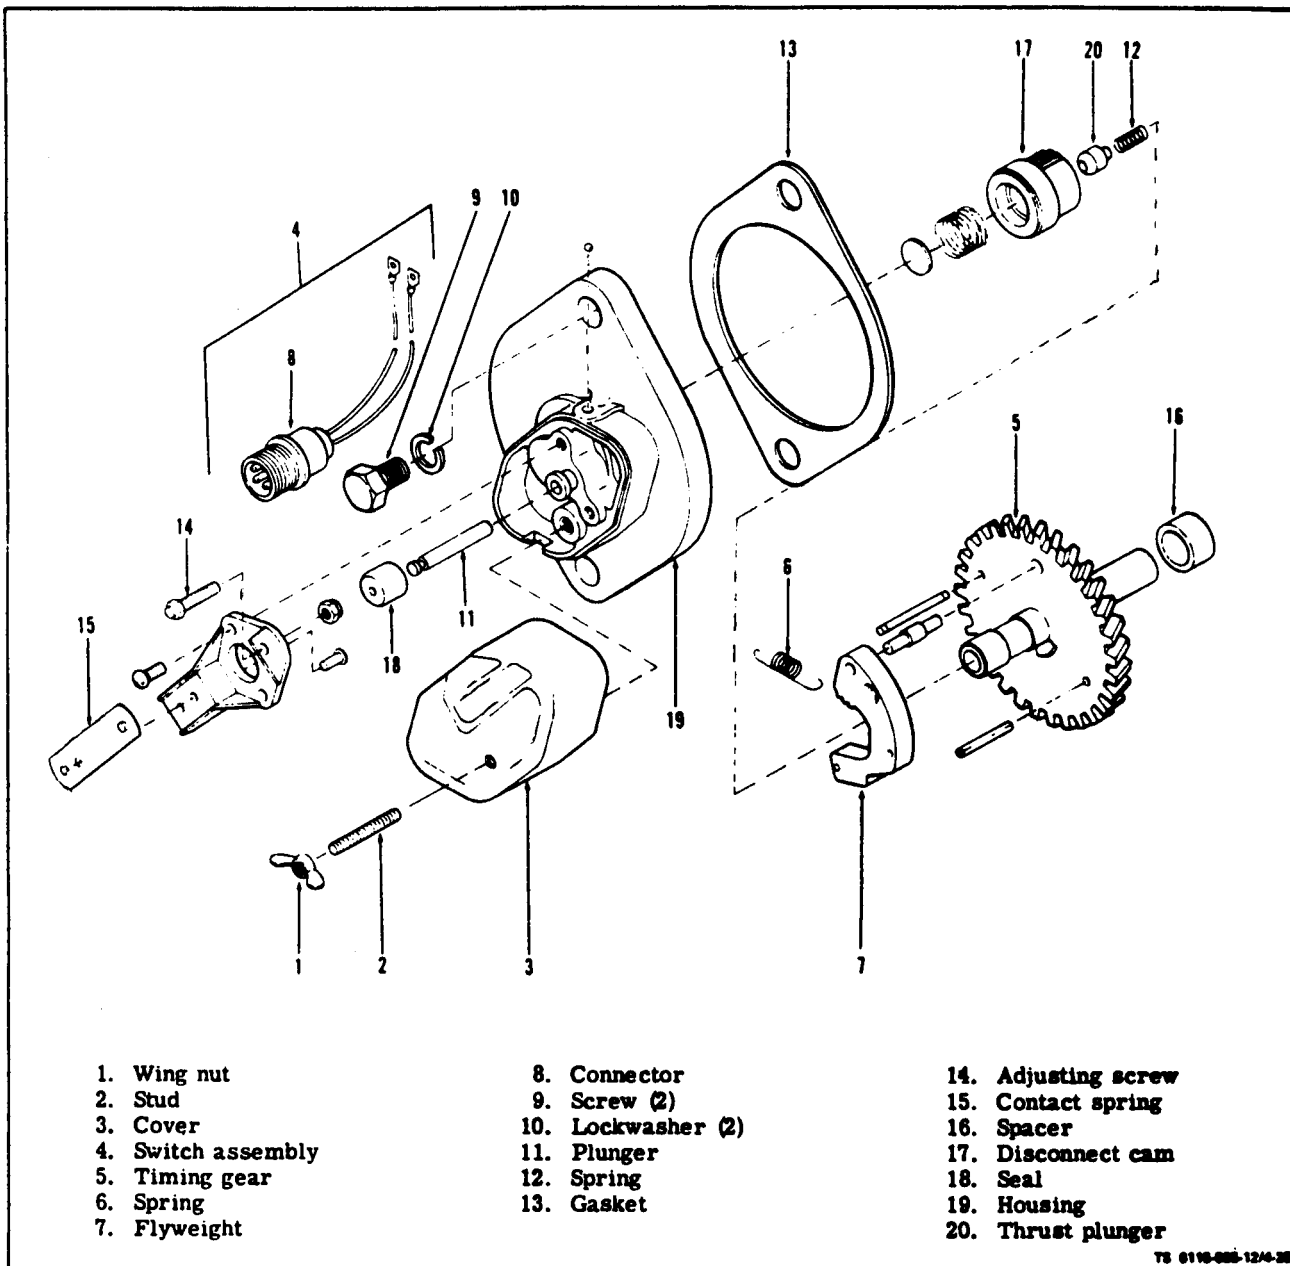
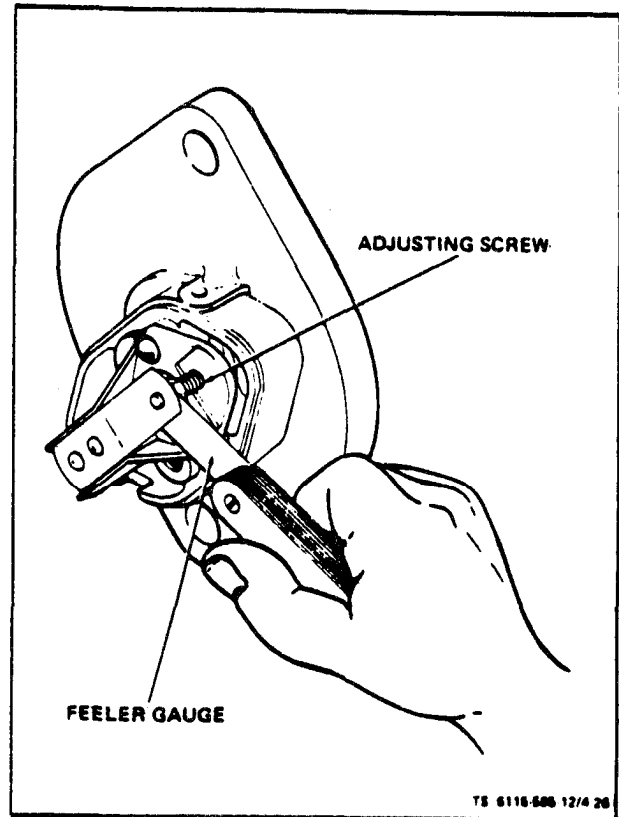

Figure 4-25. Lockout Switch and Gear
Figure 4-26. Adjusting Starter Lockout Switch
a. Inspect (see figure 4-25). Disconnect negative battery cable. Remove wing nut (1) and cover (3) and inspect switch contact points between contact spring (15) and adjusting screw(14) for physical damage.
b. Test. With engine off, disconnect switch at connector (8). Using an ohmmeter, test that there is
c. Remove. Disconnect switch lead from connector (8). Remove two screws (9) and lockwashers (10) attaching switch to engine back plate. Carefully remove switch taking care to lose thrust plunger
(20) and spring (12). Slide gear (5) out through opening in engine back plate. Clean any gasket (13) material from switch and back plate.
e. Replace. Make certain spacer (16) is on shaft and slip timing gear (5) through opening in engine back plate. Make certain that shaft seats properly in gear cover and that gear teeth are properly meshed. Place thrust plunger (20) and spring (12) in gear shaft. Slide switch and gasket (13) over shaft and attach to engine back plate with two screws (9) and lockwashers (10). Use a new gasket (13) between switch and engine back plate. Reconnect electrical connector (8).
f. Adjust. With engine stopped, remove cover retaining wing nut (1) and remove cover (3). Turn adjusting screw (14) clockwise until points open. Turn adjusting screw counterclockwise until points just close (see figure 4-26). Start engine and disconnect switch from wiring harness at connector (8, figure 4-25). Adjust adjusting screw for a 0.040 point gap. Replace cover (3) and wing nut (1). Reconnect connector (8).